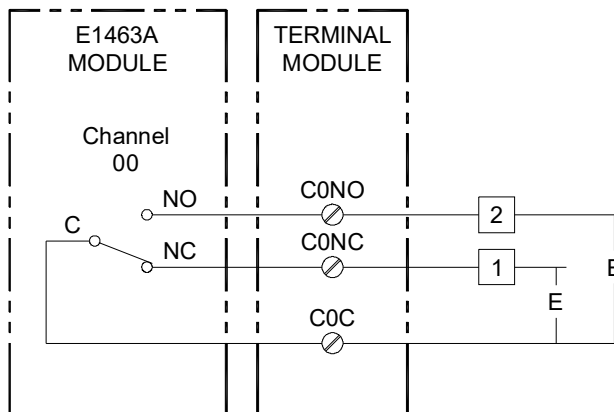

Figure 2-1 Example: Voltage Switching
This example closes channel 00 of a Form C switch module to switch the load voltage (E) from load 1 to load 2. When the channel relay is open, the load voltage is applied to load 1. When the relay is closed, the voltage is applied to load 2. See Figure 2-1 for typical user connections. The program shows how to close channel 00 of the E463A Form C Switch. To open channel 00, use OPEN (@100).